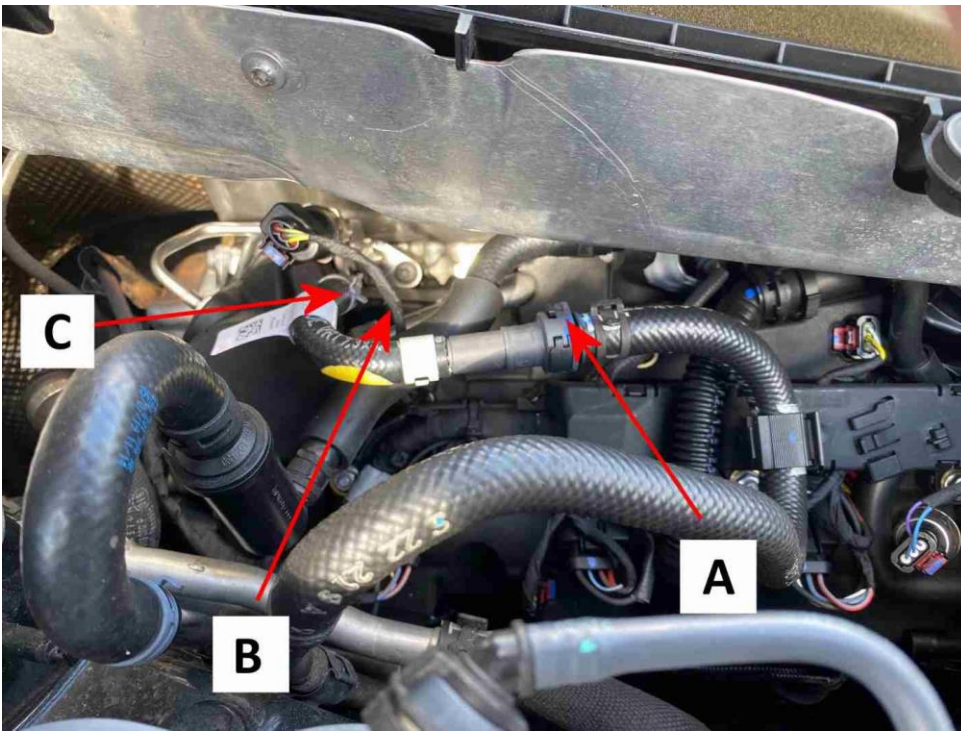

Figure 4
5) Referring to Figure 4 - Install the new hose (0P2 133 986C) as follows:
- Connect the quick connector (Figure 4 Point A) - Refer to Repair manual Rep.Gr 20 "Special instructions for fuel system quick connectors" carry out all instructions as per Repair manual instructions you must ensure all instructions within the Repair manual instructions are strictly adhered to
CAUTION Carry out a pull test to confirm correct fitment of the quick connect (Figure 4 - Point A) - Do not rely on an audible click to confirm that a secure connection has been made
- Ensure the orientation of the harness is as shown in (Figure 4 - Point B)
- Referring to Figure 4 - Point C) - Install the hose onto the metal pipe - Use Hose clip pliers - ASE4514920000 fit the spring band clip